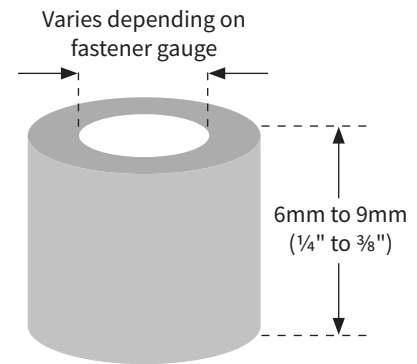

Figure 25: Nylon Spacer
- Use nylon spacers (not less than ¼" long) to keep the fixture slightly off the Lustrolite panel (Figures 25 and 26b)